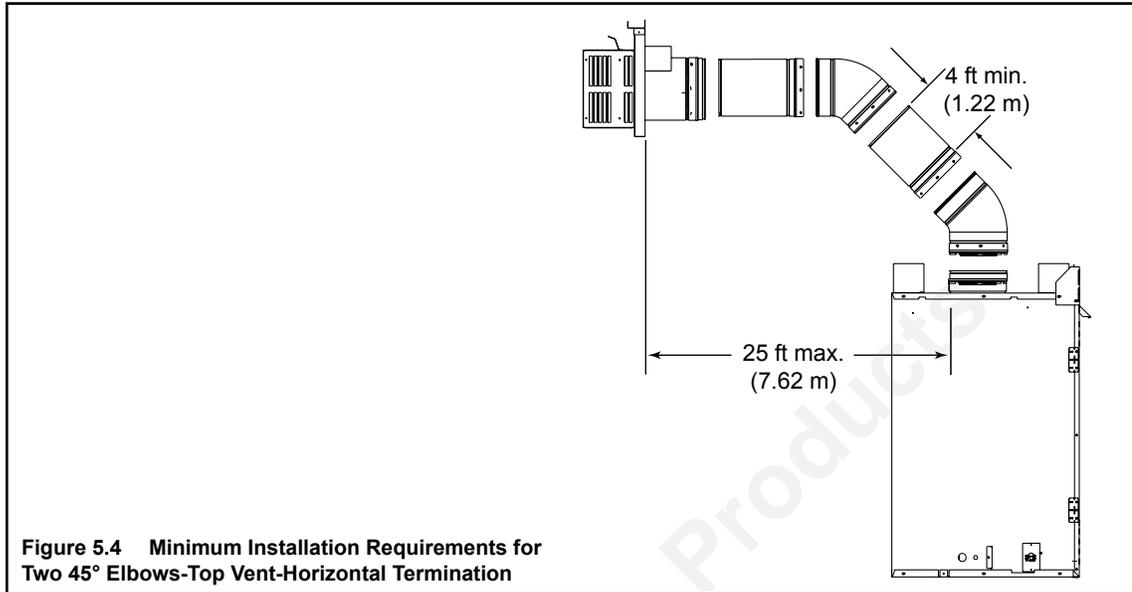

Figure 5.4 Minimum Installation Requirements for Two 45° Elbows-Top Vent-Horizontal Termination
To replace the first starter elbow with two 45° elbows, refer to Figure 5.4 All other 90° elbows can be replaced with two 45° elbows.
- Elbows may be placed back to back anywhere in the system as long as the first 90° elbow is a starter elbow except as shown in Figure 5.4.